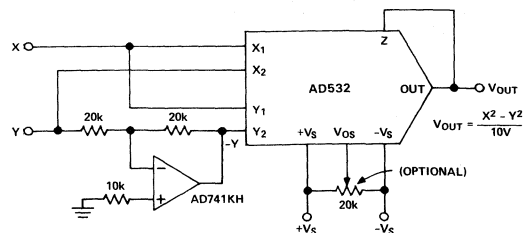

Figure 15. Differential of Squares Connection
The differential input capability of the AD532 allows for the algebraic solution of several interesting functions, such as the difference of squares,  $X^2 - Y^2/10V$ . As shown in Figure 15, the AD532 is configured in the square mode, with a simple unity gain inverter connected between one of the signal inputs (Y) and one of the inverting input terminals (-Yin) of the multiplier. The inverter should use precision (0.1%) resistors or be otherwise trimmed for unity gain for best accuracy.